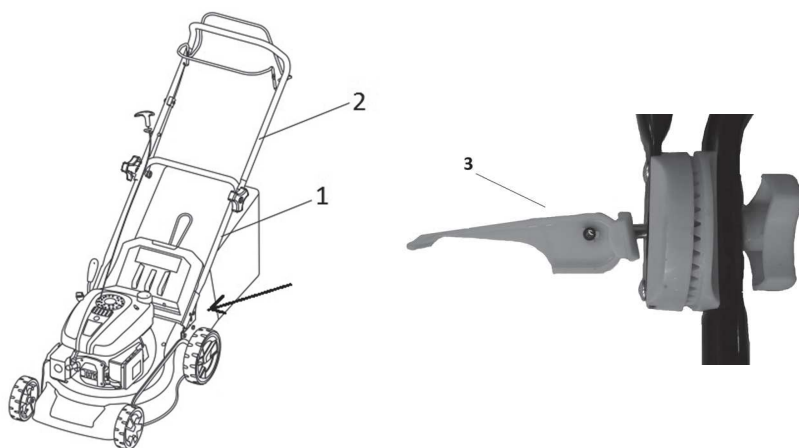

Fig. 2
1. Insert the bottom part of the handle (Fig. 2 – point 1) into the respective hole on the lawnmower (see arrow) and secure in place with 4 screws – two screws on each side of the handle.
2. Attach the top part of the handle (Fig. 2 – point 2) to the bottom part of the handle using the included screws with the quick coupler and wing nuts (Fig.2 – point 3).